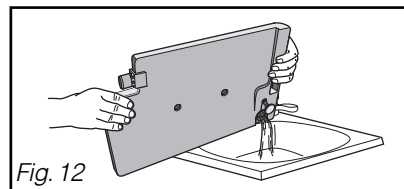

Fig. 12
The condensate container must be emptied after each drying cycle (Fig.12).
- Empty the container (Fig. 12).